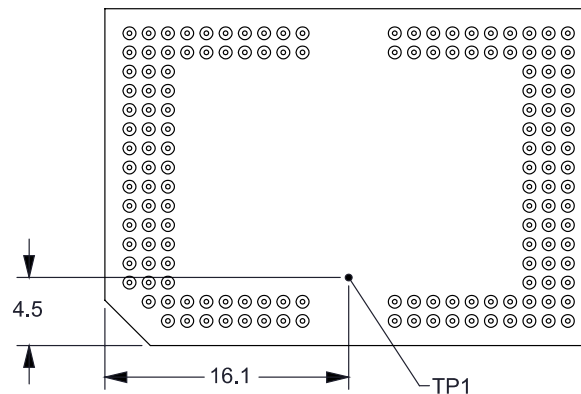

Figure 7-4. DMD Thermal Test Points
When designing the DMD heatsink solution, the package thermal resistance from array to reference ceramic temperature (thermocouple location TP1 in Figure 7-4) can be used to determine the temperature rise through the package as given by the following equations:
- T_{CERAMIC} = measured ceramic temperature, at the TP1 location in Figure 7-4 (°C)
- Q_{ARRAY} = total power, electrical plus absorbed, on the DMD array (W)
- $Q_{\text{ELECTRICAL}}$ = nominal electrical power dissipation by the DMD (W)
- $Q_{\text{ILLUMINATION}}$ = absorbed illumination heat load (W)
- Q_{INCIDENT} = incident power on the DMD (W)